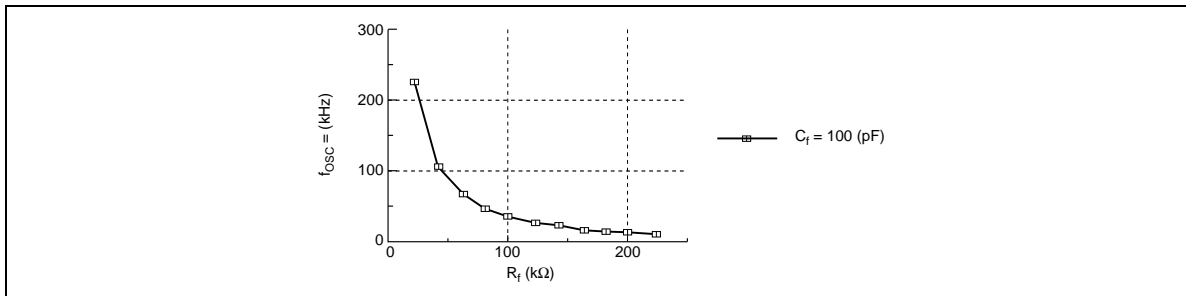

Figure 19 Oscillation Frequency Characteristics
12. Figure 19 shows a typical relation among oscillation frequency R_i and C_f . Oscillation frequency may vary with mounting conditions.